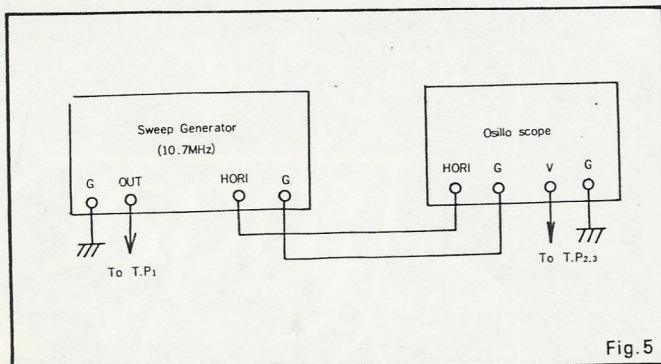

Fig. 5
1) Make connections as shown in the above Fig. 5 bring the dial pointer of the set to the right end (maximum frequency point), Vol. control to max. and Tone control to max.